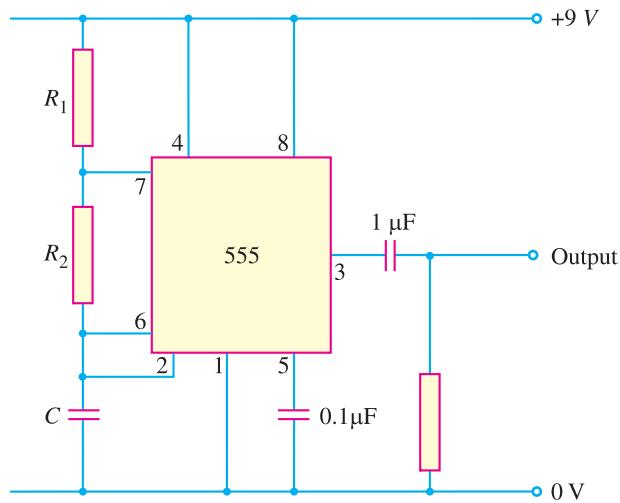

Fig. 23.18
(iv) The 555 Timer as astable multivibrator. Fig. 23.18 shows the 555 timer as an astable multivibrator. Note that the circuit contains two resistors (R_1 and R_2) and one capacitor (C) and does not have an input from any other circuit. The lack of a triggering signal from an external source is the circuit recognition feature of the astable multivibrator.
Example 23.3. Determine the frequency of the circuit shown in Fig. 23.18. Given that $R_1 = 3 \text{ k}\Omega$; $R_2 = 2.7 \text{ k}\Omega$ and $C = 0.033 \mu\text{F}$.